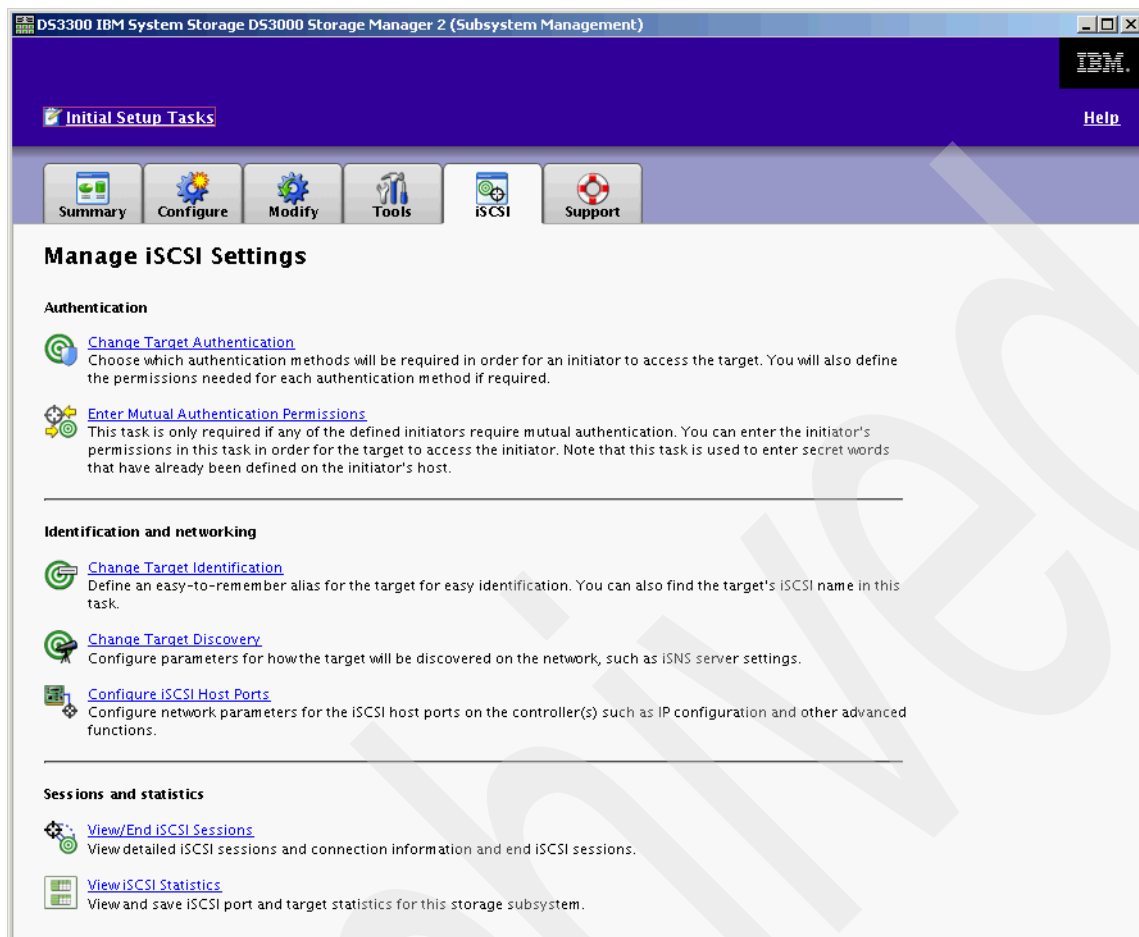

Figure 13-1 DS3000 Storage Manager - iSCSI
Figure 13-1 shows the iSCSI tab in Storage Manager.
1. On the iSCSI tab (Figure 13-1 on page 284), click **Change Target Authentication**.
1. On the iSCSI tab (see Figure 13-1 on page 284), click **Enter Mutual Authentication Permissions**.
9. Figure 13-18 shows the Storage Manager notification when the settings are applied. Click **OK** to return to the iSCSI tab, as shown in Figure 13-1 on page 284.